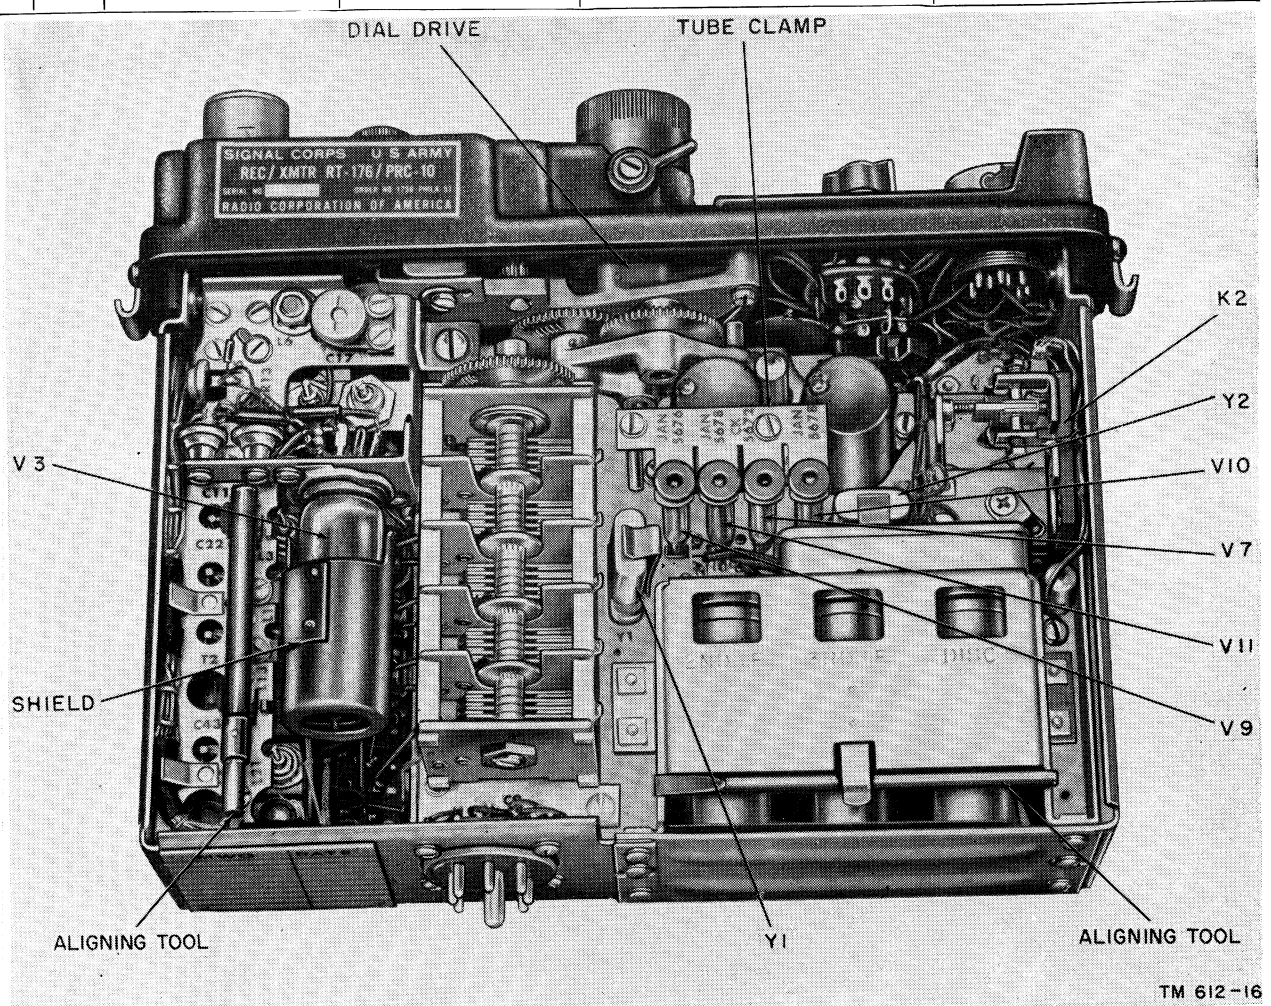
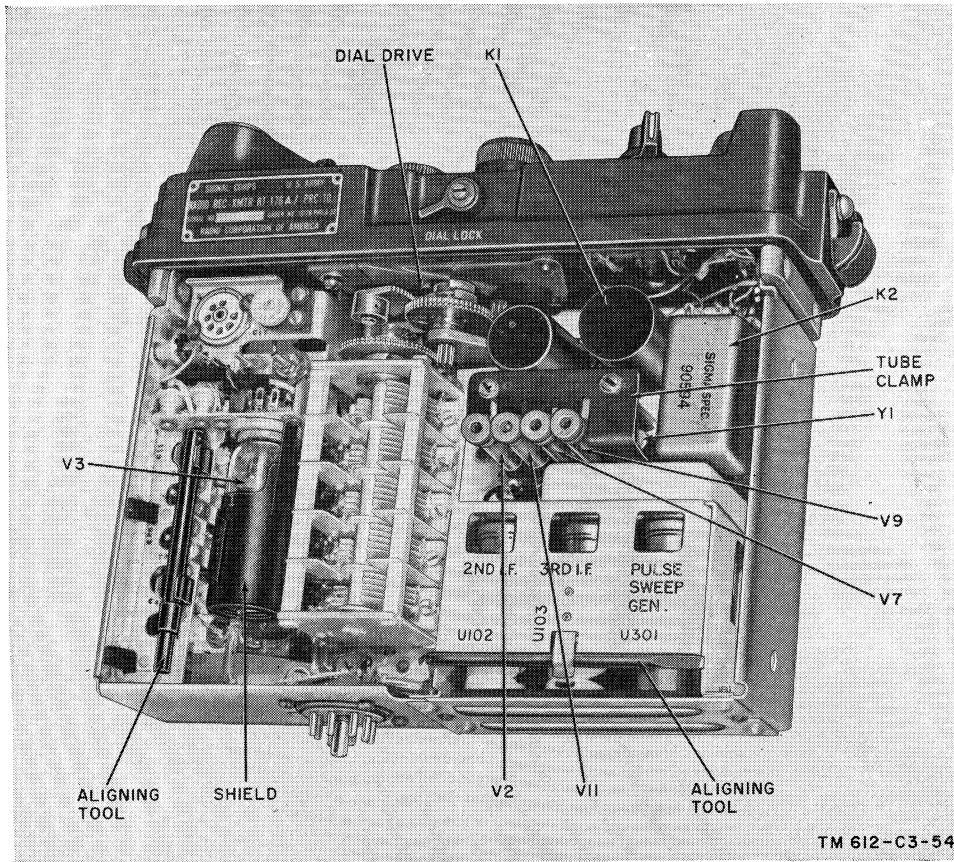

Figure 26. Receiver-transmitter chassis (unlettered models), bottom view.
Figure 28. Receiver-transmitter chassis (A models), bottom view.
d. Corrective Measures. The corrective measures listed are those the operator can make without returning the equipment for repairs. If the set is completely inoperative or if the recommended corrective measures do not yield results, higher echelon maintenance will be necessary (refer to TM 11-4065). However, if the tactical situation requires that communication be maintained, and if the set is not completely inoperative, the operator must maintain the set in operation as long as possible. For location of components, refer to figures 26 and 27 for the unlettered models, and to figures 28 and 29 for the A models of the receiver-transmitter.